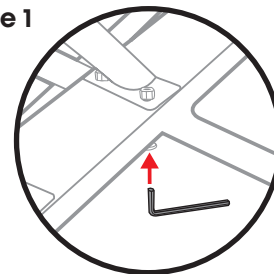

Figure 3
3. Finger tighten, then use the Allen wrench to completely secure the Front Wheel to the frame (Figure 3).